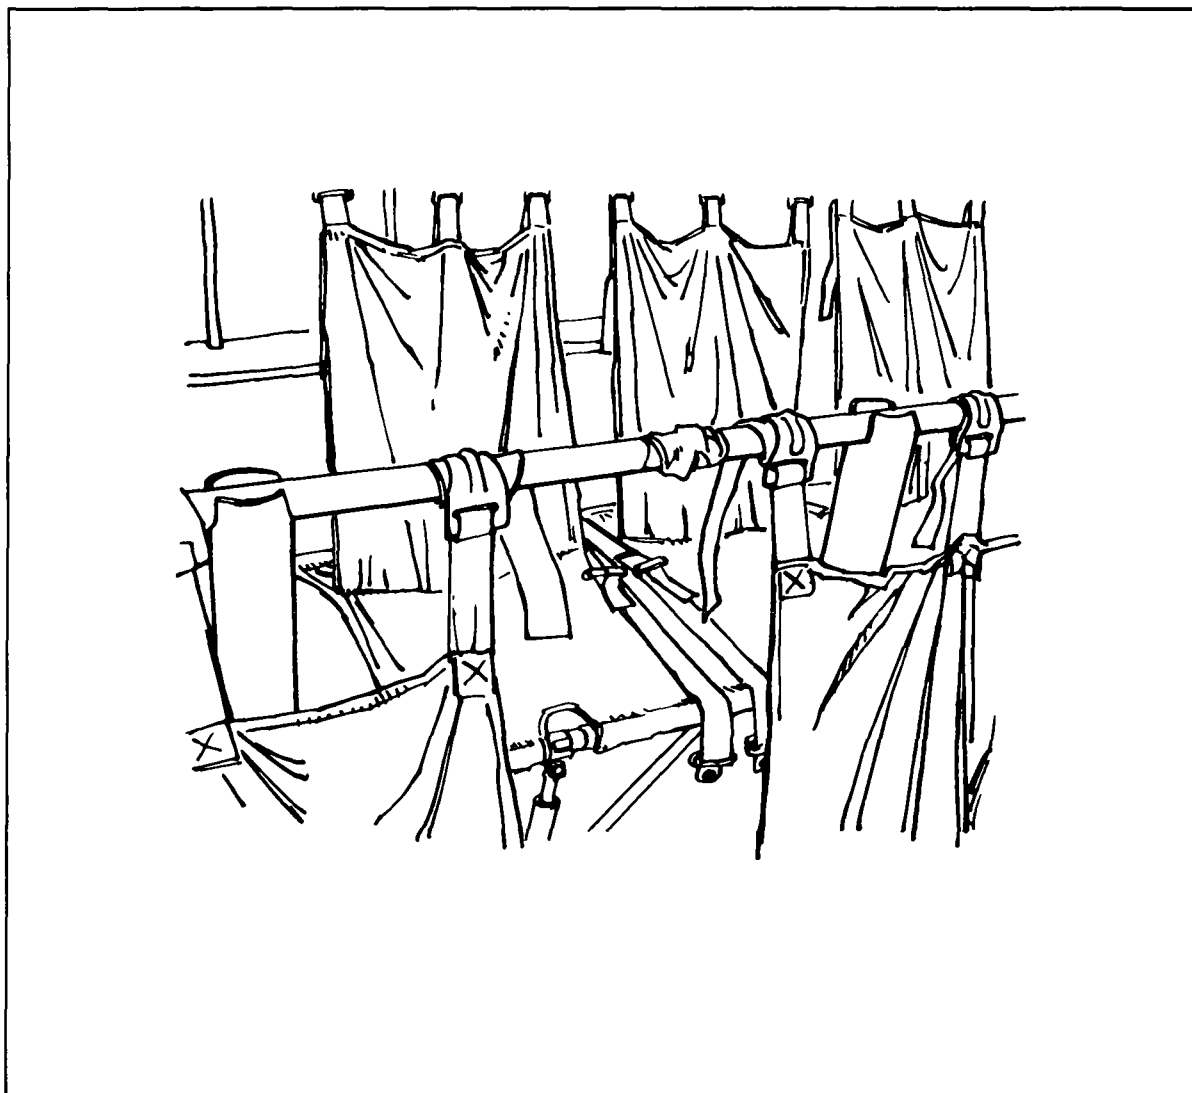

Figure 12-22. Horizontal supports taped.
(2) The seats are placed in two rows (12 seats each) facing starboard with the outboard seats on the portside of the pod and the inboard seats on the center line. The last three tie-down rings (Nos. 14A-E through 16A-E) are not used.
(3) The ends of the top horizontal supports on the back of the center row of seats are taped between each seat section to prevent items from becoming entangled in the seat back supports (Figure 12-22).
(4) An anchor line cable assembly is installed on the starboard side of the floor by using the two top tie-down fittings at the forward end (Nos. 1F and 2F) and the two tie-